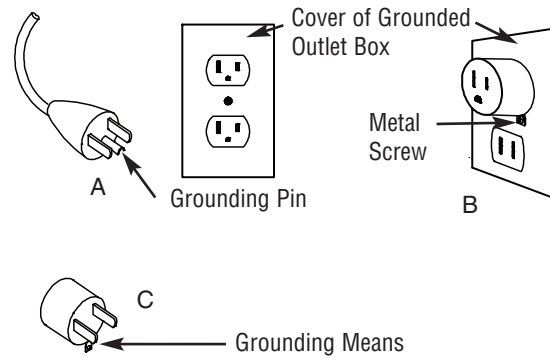

Figure 3
10. This heater is provided with a three blade grounded plug (see Figure 3). Always connect to a properly grounded outlet only.
3. This heater is for use on 120 volts. The cord has a plug as shown at A (Figure 3). An adapter as shown at C is available for connecting three-blade grounding-type plugs to two-slot receptacles. The green grounding lug extending from the adapter must be connected to a permanent ground such as a properly grounded outlet box. The adapter should not be used if a three-slot grounded receptacle is available.